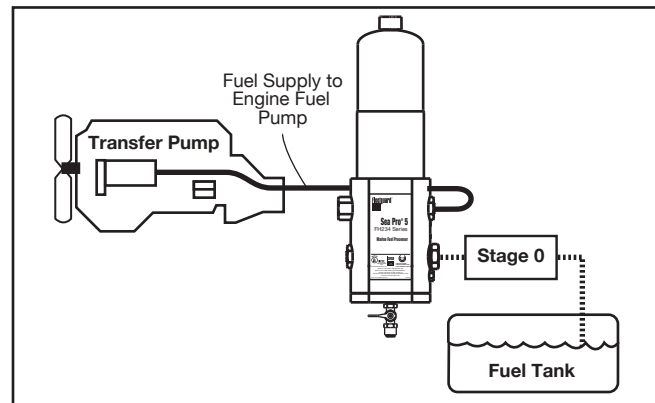

Figure 1 - Sea Pro Connections
3. Route the fuel supply line from the outlet of the Stage 0 filtration device to the Sea Pro inlet (see Figure 1). (If no Stage 0 filtration device is present, route the fuel supply line from the outlet